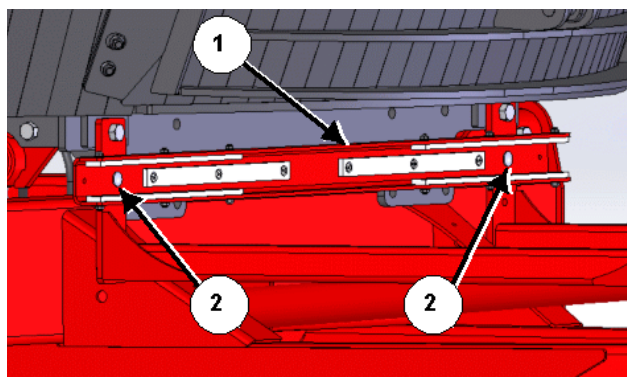

Figure 4: Install the rear conveyor slide
5. Install the rear conveyor slide assembly (1) onto the platform uprights and below the tub door, as per *Figure 4*.
- b. Fasten the slide assembly with 2 of ½" x 1 - ¼" carriage bolts and ½" flange lock nuts (2).